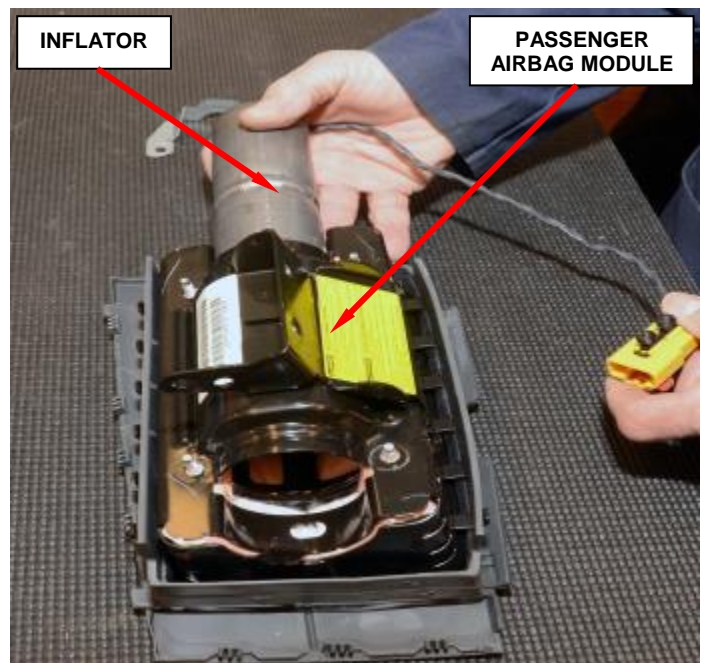

Figure 108 - Inflator Removal
f. Slide the inflator out of the passenger airbag module (Figure 108).